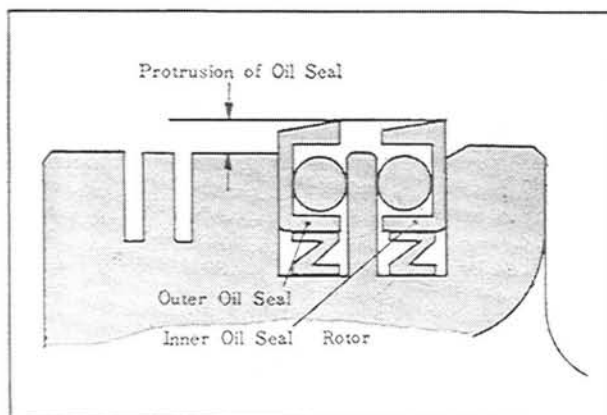

Fig. 1-44 Protrusion of oil seal
2. Check the oil seal protrusion shown in Fig. 1-44. It should be more than 0.5 mm (0.02 in).